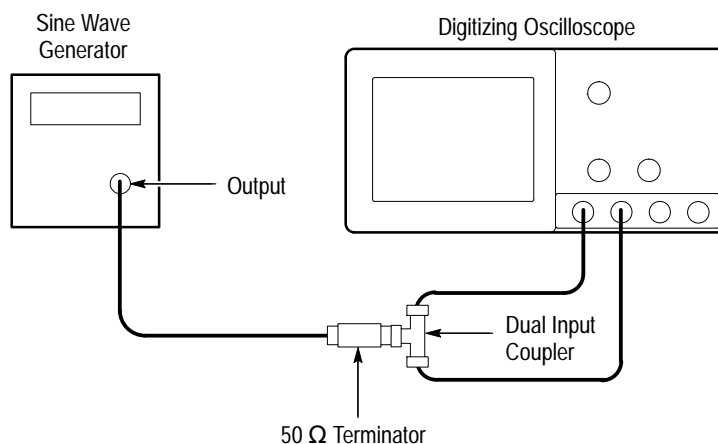

Figure 1–8: Initial Test Hookup
- Connect the sine wave output of a sine wave generator to a 50  $\Omega$  precision coaxial cable, a 50  $\Omega$  termination, and a dual-input coupler. (See Figure 1–8.)